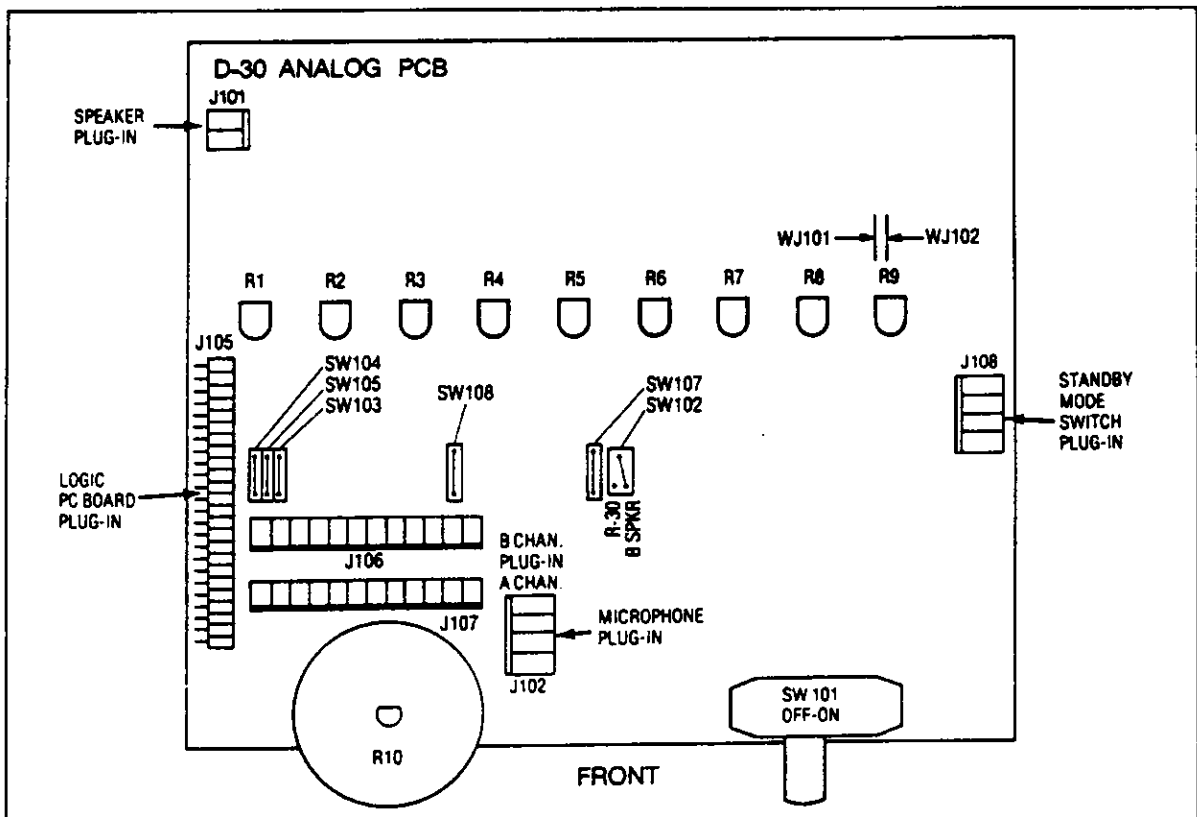

Figure 4. D-30 "B" Jumper Switch Locations
- 3) Opening jumper SW107 (figure 4) to increase the #1 preamp gain for the lower output of a flex microphone.
- 4) Opening jumper SW103 (figure 4) to enable VOX option.
6. OPTIONAL MONITOR SPEAKER - You can monitor the "A" channel conversation over any 8-ohm speaker connected to "B" channel terminals 11 and 12 or over a R-30 Remote Station. You can connect both a monitor speaker and an R-30 to these terminals (sharing the five-watt "B" amplifier output) but connect no more than a total of four speakers. Connect a volume control for each monitor speaker to provide local volume control. Jumper switches SW104 and SW105 along with the R4 volume control provide the monitor function. Refer to figure 4 and open the appropriate switch per the following:
Some Main features and optional components described previously require that you change Main internal jumper switches. To change jumpers, separate the Main cabinets (four screws at bottom corners) and open any jumpers indicated by feature selections on the Customer Analysis and Installation Survey Form provided by your salesperson. To open a jumper switch, gently push down the spring arm and move it sideways to unhook it (similar to opening a safety pin). Figure 4 shows jumper switch locations and a checklist for all options. The Main has three jumper options not described elsewhere.
3. **SEPARATE OUTSIDE MICROPHONE** - Jumper wires WJ101 and WJ102 normally allow use of the "A" speaker both as a speaker, and through the jumpers, as a microphone. If you wish to connect a separate outside microphone, in addition to a speaker, then cut both jumper wires (see figure 4) and connect one of the special 3M low impedance microphones to "A" terminals 9 and 10 using twisted-pair shielded cable. Connect the shield to terminal 8 and leave it unconnected at the microphone end.